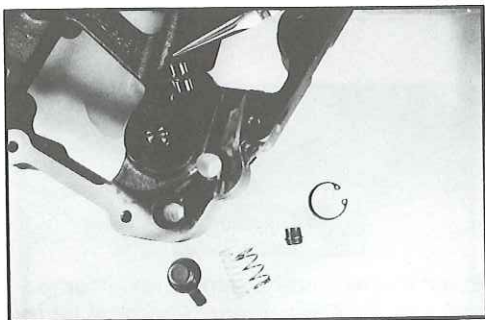

Fig. 23
4. Using needle-nose pliers, remove the control valve (Fig. 23).